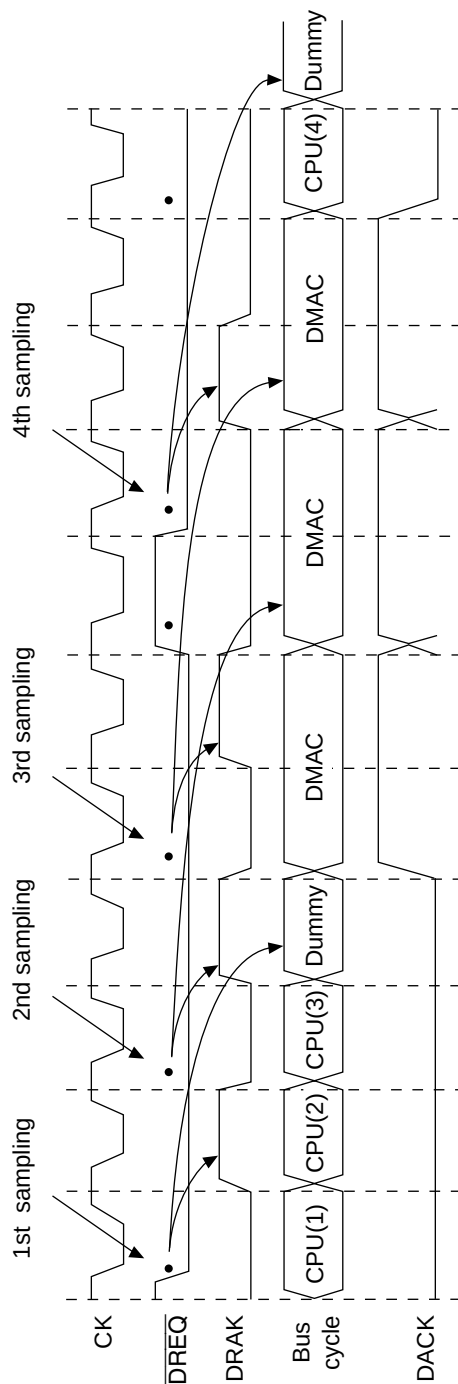

**Figure 11.21 Burst Mode, Single Address, and Level Detection (Fastest Operation)**
**Burst Mode, Single Address, and Level Detection:**  $\overline{\text{DREQ}}$  sampling timing in burst mode with single address and level detection is shown in figures 11.21 and 11.22.
As with the fourth sampling in figure 11.21, once DMAC transfer is interrupted, a dummy cycle is again inserted at the start as soon as DMAC transfer is resumed.